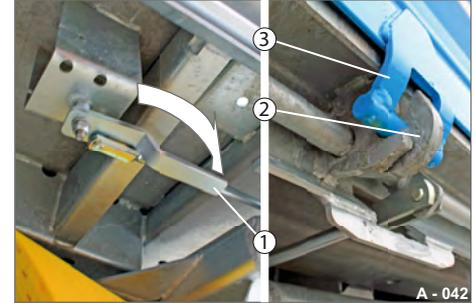

Fig. 50 Central locking system, locked
- ▶ Press the lever (Fig. 50/1) up to the limit position.
All lock hooks (Fig. 50/2) grip in the lock lugs (Fig. 50/3) and press the rear platform gate closed.